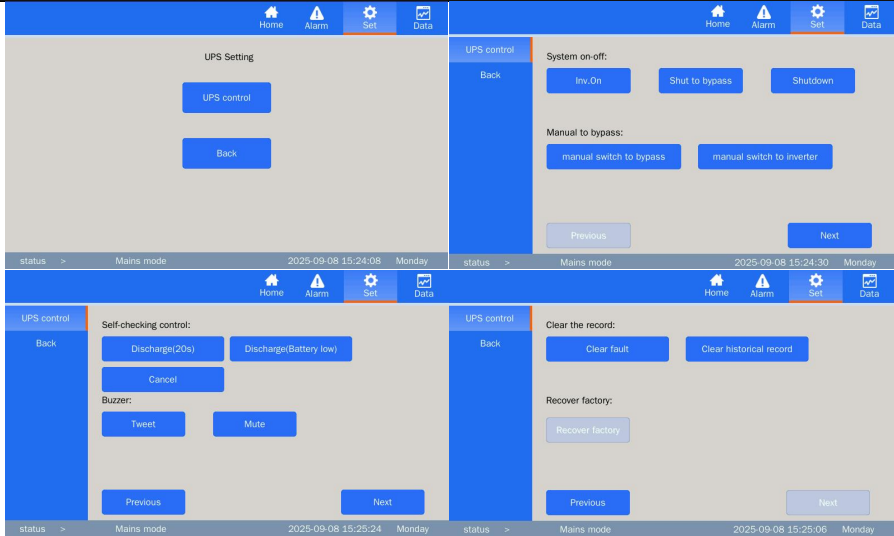

Figure 3-18 UPS Control Interface
(1) UPS Control: Supports controlling UPS system power ON/OFF, manual transfer to bypass/manual transfer to inverter, battery self-test control, buzzer ON/mute, fault clearing, historical record clearing, and restoration to factory settings through the monitoring system, as shown in Table 3-8 and Figure 3-18 below.